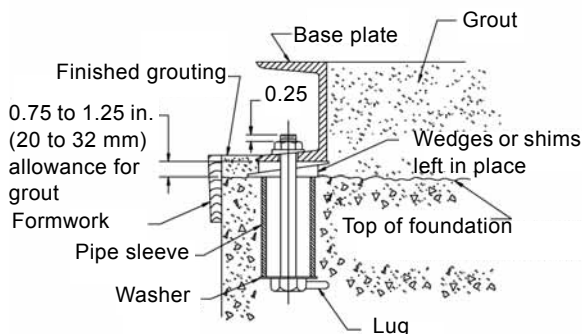
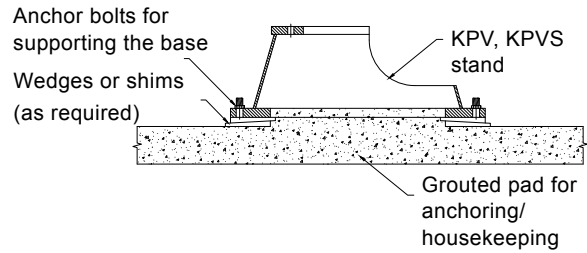

Fig. 5 KP anchor bolt installation
Fig. 6 KP, KPVS anchor bolt installation
3. Place anchor bolts in pipe sleeves for positioning allowance. See fig. 5 and fig. 6.
6. Construct a formwork around the concrete foundation and pour grout inside and around the base plate. See fig. 5 for KP and fig. 6 for KP, KPVS. The grout will compensate for uneven foundation, distribute the weight of the pump, and prevent shifting.